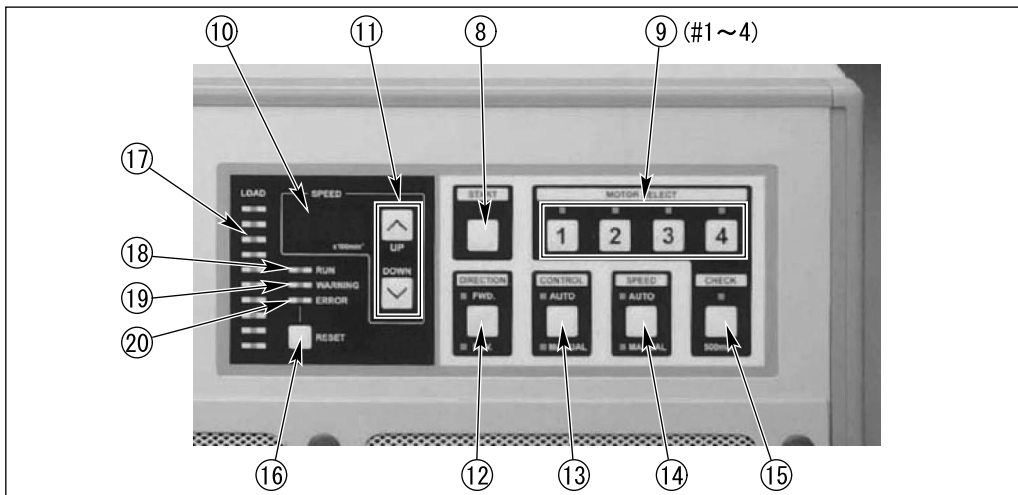

Fig 3
- ① Unit
- ② Power Switch
- ③ Control Panel
- (P8, Fig 3)
- ④ Motor
- ⑤ Motor Cord
- Connect the Motor cord to the motor and Motor Connectors ②① located on the back of the unit.
- ⑥ Front Panel Filter
- ⑦ Air Hose for Motor Cooling
- Connect the air hose to the Cooling Air Output Connectors ②② on the back of the unit and motor.